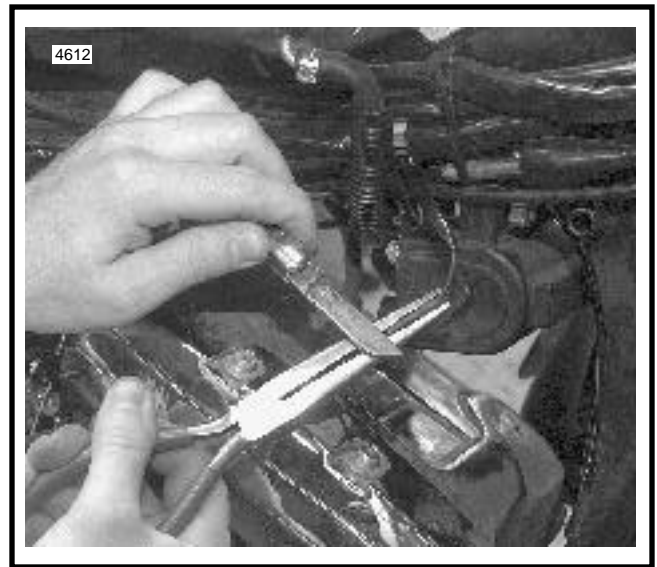

Figure 4. Cut Shrink Tubing from Female Spades
5. With a needle nose pliers, grasp the female spade type wire terminal the long way (see Figure 4). Using a sharp knife, make a cut the full length of the shrink tubing. Exercise caution to avoid cutting the wire beneath the shrink tubing material. Peel off the shrink tubing material and discard. Repeat the procedure to remove the tubing material from the other terminal.